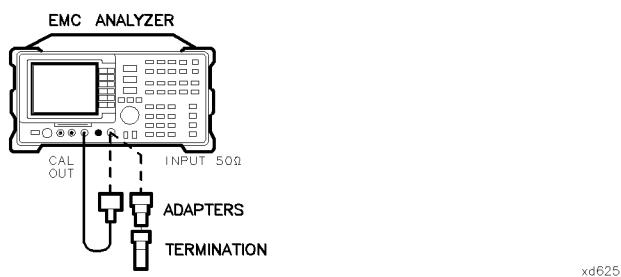

Figure 2-63. Displayed Average Noise Level Test Setup, HP 8594EM
1. Connect a cable from the CAL OUT to the INPUT 50 Ω of the EMC analyzer as shown in Figure 2-63.